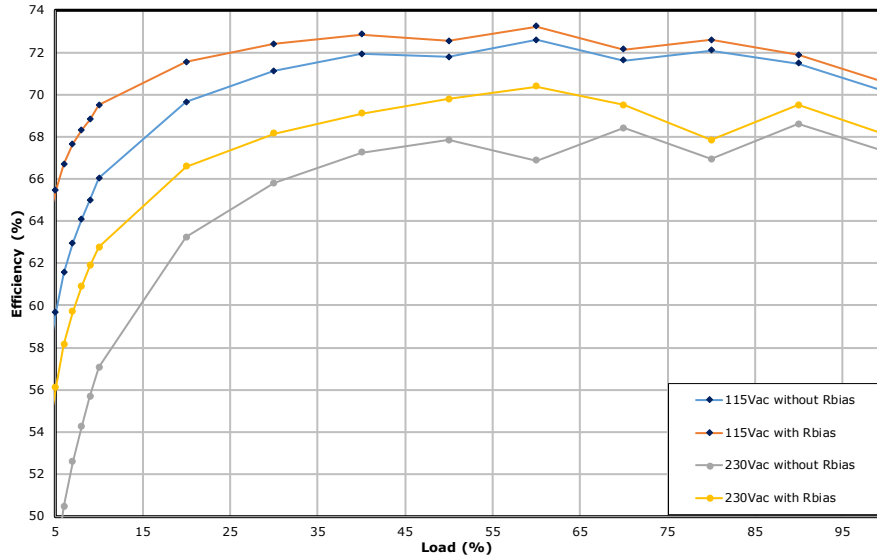
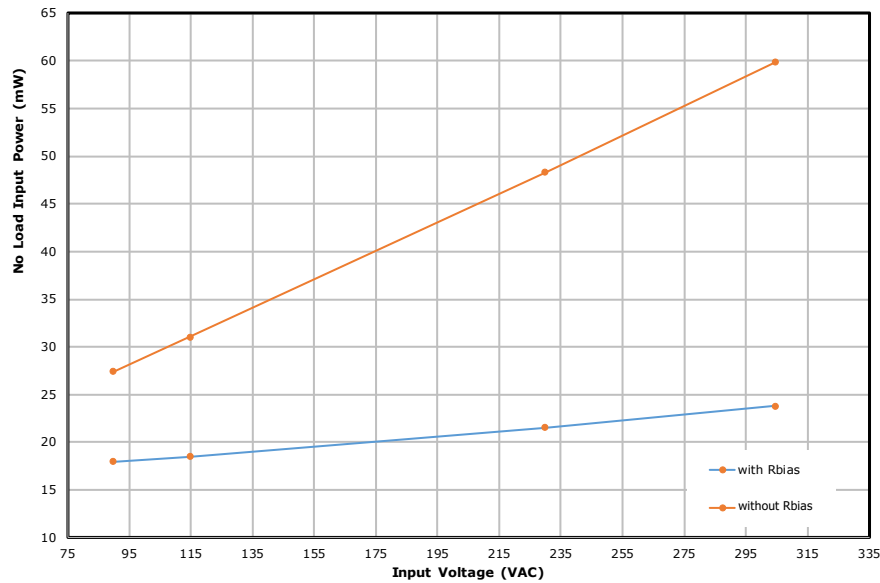

Figure 13. 115 VAC / 230 VAC Load Efficiency with and without  $R_{BIAS}$ .
Figure 14. No-Load Input Power with and without  $R_{BIAS}$ .
Designer can think that adding  $R_{BIAS}$  will not help for a 5 V output LinkSwitch-TN2 buck due to BYPASS Pin (BP) voltage is approximately 5 V. As the load is decrease from full load to minimum load, the output voltage is in increasing trend (full load at 4.88 V and minimum load at 5.13 V). Since at light load the  $V_O$  is higher than 5 V, the  $R_{BIAS}$  can still help to increase efficiency at light load (Figure 13). At no-load, the  $R_{BIAS}$  will help to decrease drastically the input power (Figure 14).